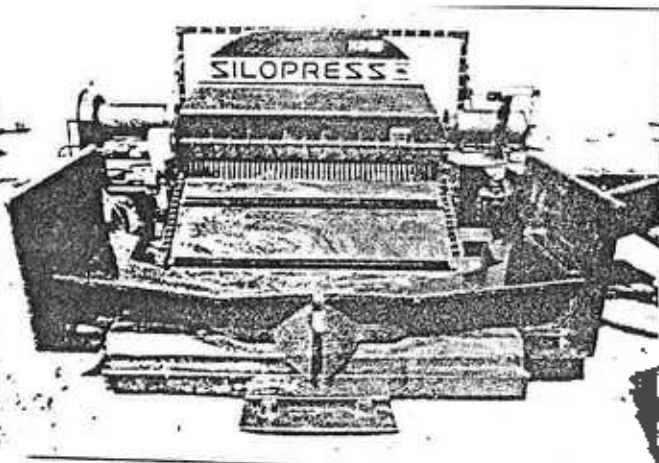

FIGURE 12
3. Remove upper side boards from transport position and fasten in place on feedtable. Figure 12 & 13